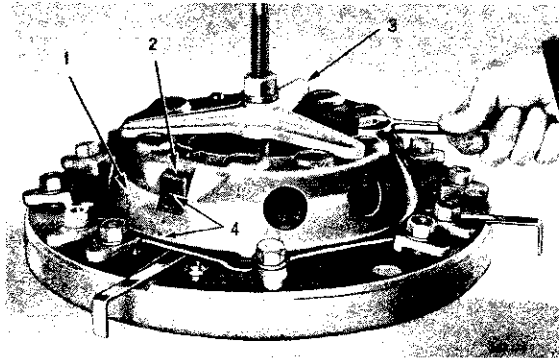

Fig. 3—Clutch Cover and Pressure Plate
6. CLUTCH DISASSEMBLY (FIG. 3)